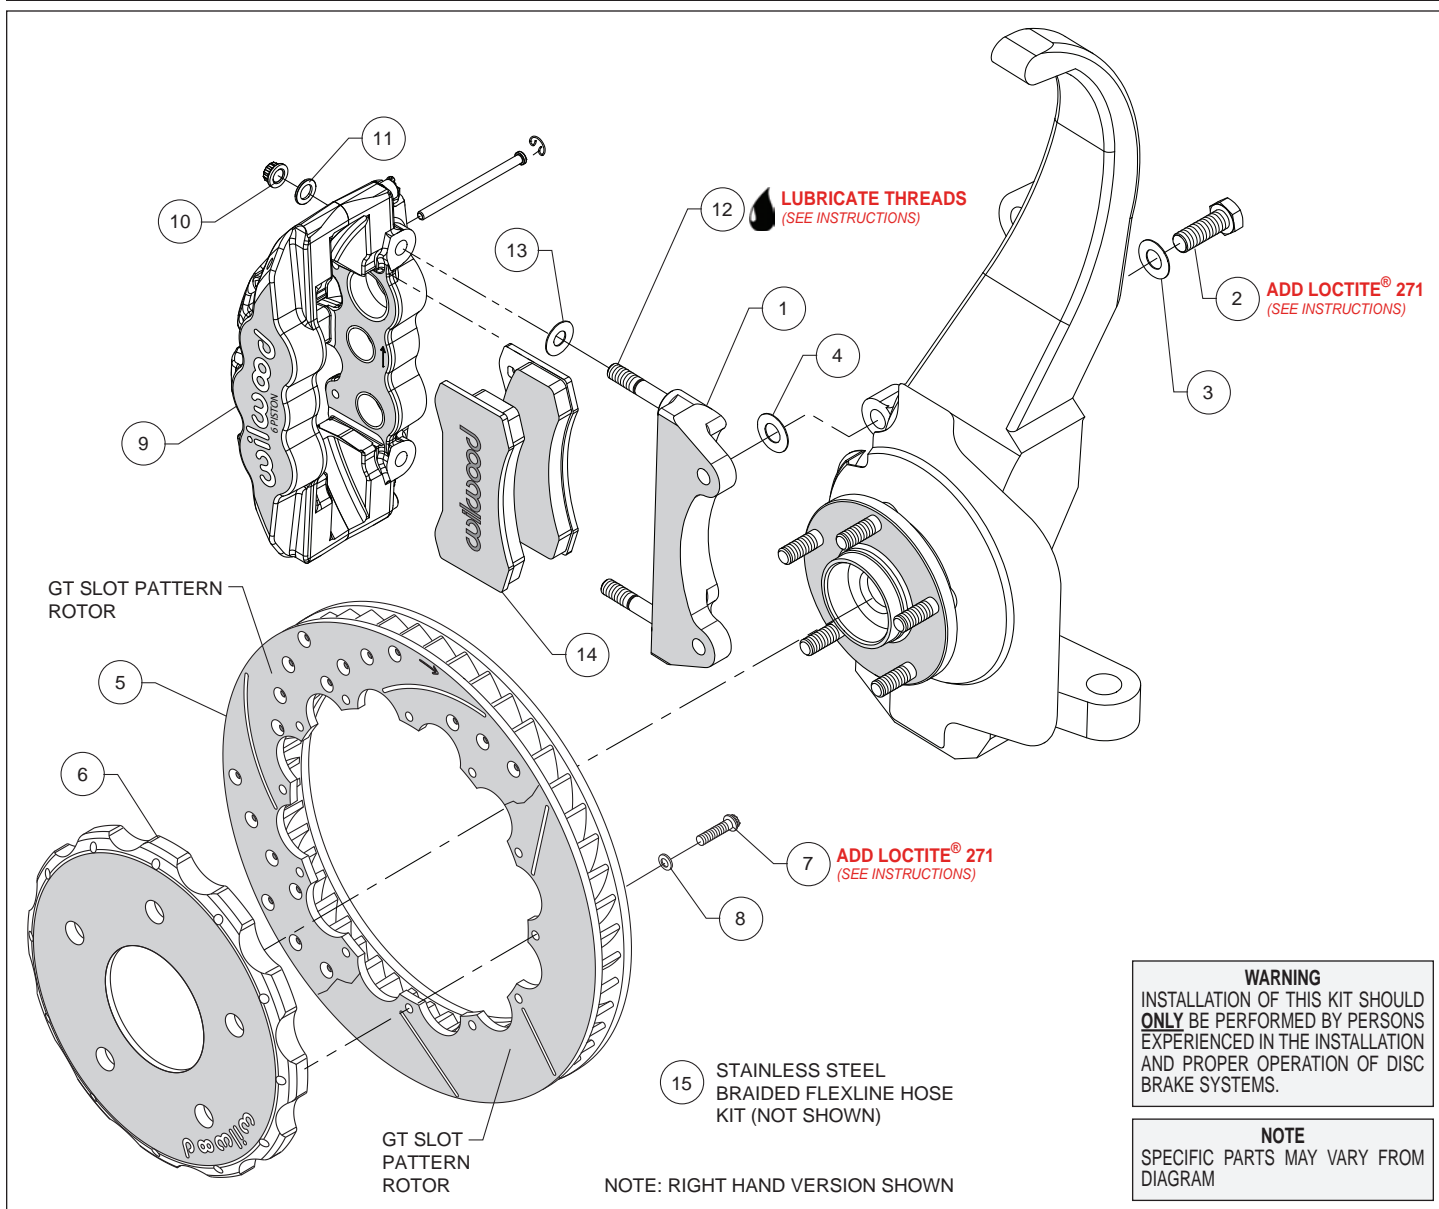
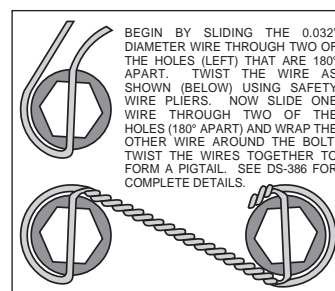

Figure 1. Typical Installation Configuration
Figure 4. Safety Wire Diagram
Assembly Instructions (numbers in parenthesis refer to the parts list and Figure 1 on the preceding pages):
- The caliper mount bracket (1) should initially be installed with clean, dry threads on the mounting bolts. Orient the bracket as shown in Figure 1 and Photo 1, and install using bolts (2) and washers (3). Initially place one .029 thick shim (4) on each bolt between the bracket and upright, Figure 1. Temporarily tighten the mounting bolts. **NOTE:** The bracket must fit squarely against the mounting points on the upright. Inspect for interference from casting irregularities, machining ridges, burrs, etc. Later, after the caliper alignment has been checked, the mount bolts will be secured using red *Loctite*® 271.
- Orient the rotor (5) and the hat (6) as shown in Figure 1 and Photo 2. Attach rotor to hat using bolts (7) and washers (8). Using an alternating sequence, apply red *Loctite*® 271 to the threads, and torque to 155 **in-lbs**. For an added measure of security, the bolts may be safety wired using standard 0.032 inch diameter stainless steel safety wire as shown in Figure 4. Please refer to Wilwood's data sheet DS-386 (available at www.wilwood.com/Pdf/DataSheets/ds386.pdf) for complete safety wire installation instructions.
- NOTE:** This kit contains distinct right and left hand calipers that must be mounted in a specific direction, as described below. Lubricate the caliper mounting studs (12) with lightweight oil. Initially place one .030" thick shim (13) on each stud between the caliper and the bracket, as shown in Figure 1 and Photo 3. Mount the caliper (9) onto the bracket (1) using lock nuts (10) and washers (11), Figure 1. Ensure that the caliper is mounted so the largest pistons are at the rotor exit end of the caliper, in relation to the direction of rotor rotation. Temporarily tighten the lock nuts and view the rotor through the top opening of the caliper. The rotor should be centered in the caliper, Photo 4. If not, adjust by adding or subtracting shims (4) between the bracket and the upright. Always use the same amount of shims on each of the two mounting bolts. Once the caliper alignment is correct, remove the bracket mounting bolts (2) one at a time, apply red *Loctite*® 271 to the threads, and torque to 77 ft-lbs.
- Remove the two pad retaining pins from the caliper (9) by carefully popping out the pin retaining clips and sliding out the pins. Insert the brake pads (14) into the caliper from the bottom, Figure 1 and Photo 5. With the friction material facing the rotor, secure the brake pads in place with the pad retaining pins and clips, Photo 6. Reinstall the caliper onto the caliper mounting bracket and temporarily tighten the lock nuts (10). Check that the top of the brake pad is flush with the outside diameter of the rotor, Photo 7. If not, adjust by adding or subtracting shims (13) between the caliper and the bracket. After the caliper pad height is set, torque the caliper lock nuts (10) to 47 ft-lb.